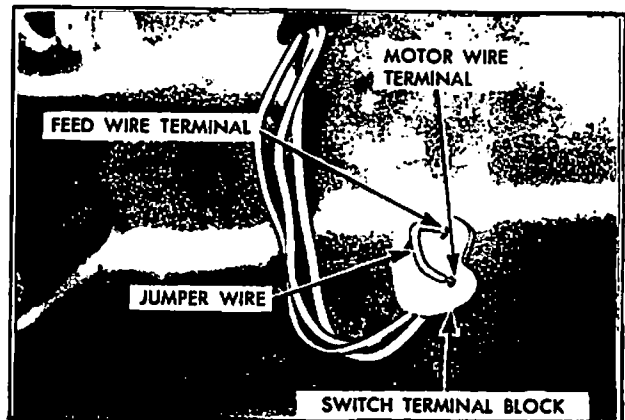
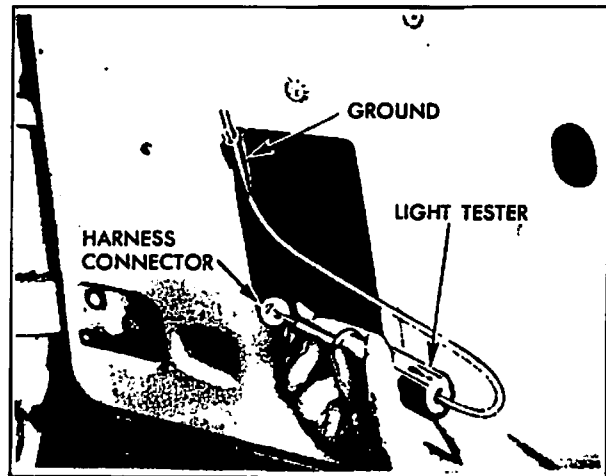

Figure 2-7
Fig. 2-8 Checking Between Switch and Motor
- I Checking Feed Circuit to Power Circuit Breaker. Note: Power circuit breaker is usually located behind driver side Kick panel (Figure 2-8) or on upper shroud.
Insert one end of a #12 gauge jumper to the switch feed terminal and other end of one the motor lead terminals. (See Fig. 2-7)
Insert one end of #12 gauge jumper wire to switch feed terminals and the other end of one of the motor lead terminals in switch block. (See Fig. 2-7) with light tester, check for current at terminal being tested. If tester does not light, there is an open or short circuit in harness between control switch and motor connector. (See Figure 2-8)
- (A) Disengage harness connector from switch.
- (B) Use a jumper wire and insert one end into the red wire (feed) terminal. Figure 2-7. Insert other end into either of the other terminal openings. If tailgate window motor fails to operate, try jumper in other motor terminal.
- (C) If the tail gate window motor operates with jumper wire but does not operate with the contact switch, the switch is defective.